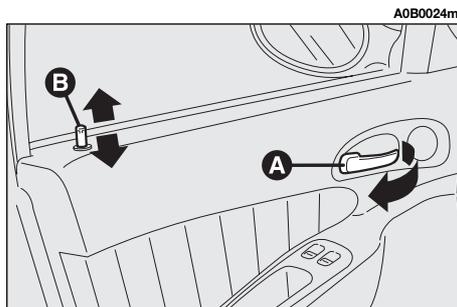

fig. 16
– To open the door pull the handle (**A**-fig. 16) regardless of the position of knob (**B**).
— **From inside:** when the doors are closed, press one of the knobs (**B-fig. 16**) located on the front doors, engage/release the centralized locking system.
IMPORTANT For the front doors it is not possible to keep the knob (**B-fig. 16**) down if the door has not been shut properly.